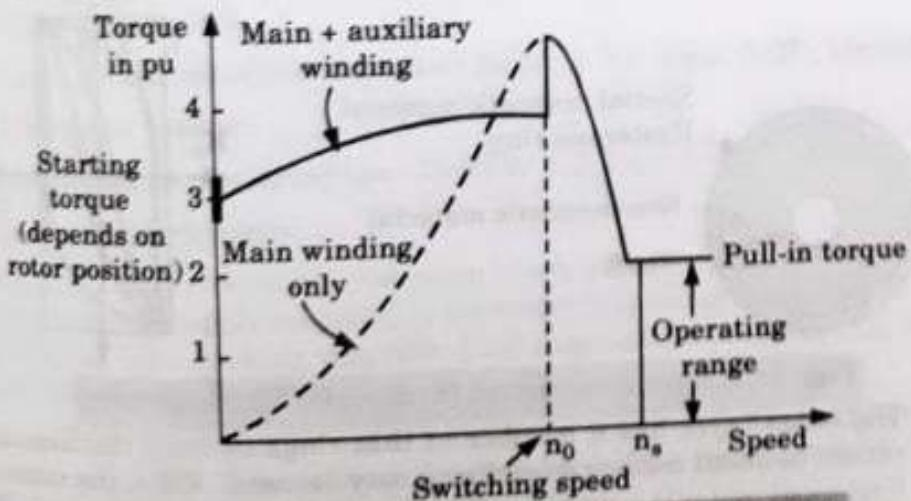

Fig. 5.1.2. Torque-speed characteristic of reluctance motor.
1. Typical torque-speed characteristic of the 1φ reluctance motor is shown in Fig. 5.1.2.